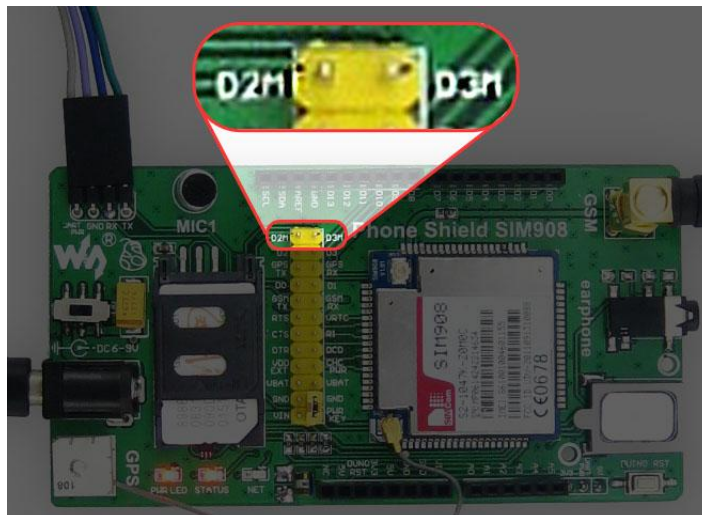

Figure 3: Selecting GPS/GSM serial mode
- 3.2 SIM908 module has two serial modes for different communication objections: GSM/GPS modes. To select GSM serial control port, D2M should be connected to GND via a jumper wire; while selecting GPS serial control port, D3M should be connected to GND with a jumper wire, as Figure 3 shows.